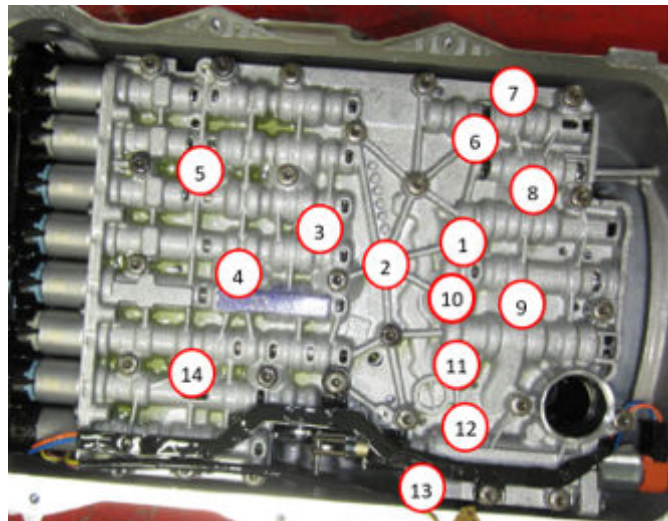

Fig. 41
65. Install the valve body assembly bolts Fig. 41.